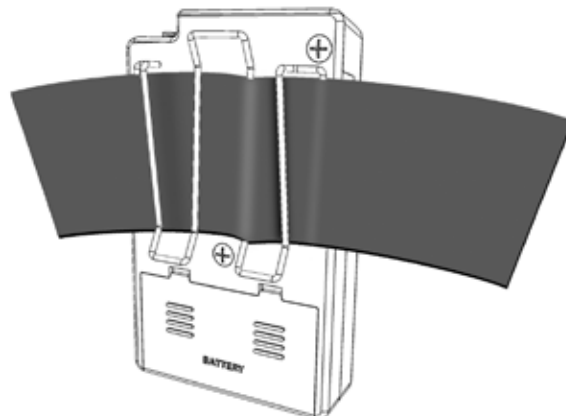

FIGURE 16
3. For thinner nylon-type guitar straps you can secure the transmitter by weaving the strap through the clip as shown in figure 16.